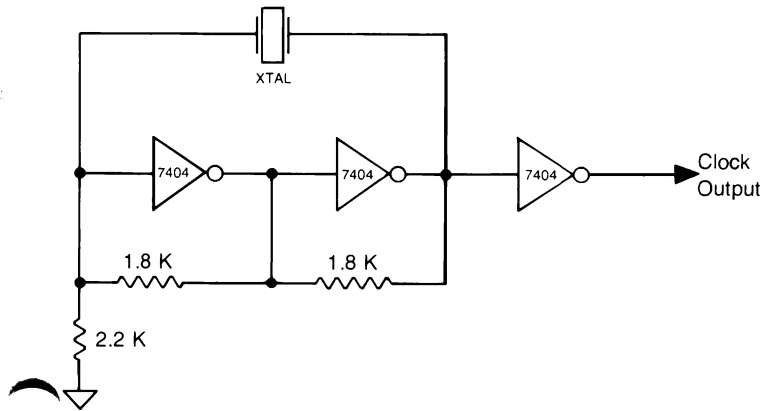

Figure 1 BASIC CRYSTAL OSCILLATOR CIRCUIT
A 1 or 2 MHz crystal can be used in the circuit in figure 1 to directly drive the single phase clock input of an R6500 family CPU. In this case, you'll need to connect the output to the phase ϕ (IN) pin on the CPU (pin #37 on the R6502).